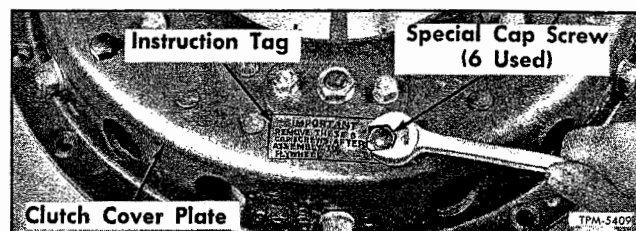

Figure 3—Temporary Cap Screws and Instruction Plate
1. Install six special cap screws (3/8"-16 x 1-1/2", threaded 1") through holes in cover plate (25) located directly above each release lever (13) (fig. 3). Turn screws into pressure plate (3) as far as possible. This procedure relieves pressure spring (27) load so cap screws (29) can be easily removed.
3. Remove cover bolts (29) meanwhile supporting clutch to prevent distortion of clutch dowels (1). Tap flange of clutch cover with soft mallet to free assembly from flywheel. Remove clutch assembly and driven disc.
4. Remove bolts (36) and remove retainer (40) which retains pilot bearing (35) in flywheel. After retainer is removed, install two bolts to hold flywheel on crankshaft while removing pilot bearing.
1. Put driven member (41) in place against flywheel plate (42) with short end of splined hub toward flywheel. Use aligning arbor (B-80-0062) or old clutch shaft to hold assembly in position.
2. Place clutch assembly in position against flywheel and install cap screws (29) using new lock washers. Tighten screws securely.
3. Remove six special cap screws (fig. 3) previously installed to facilitate clutch installation. Screws must be removed before clutch will engage.